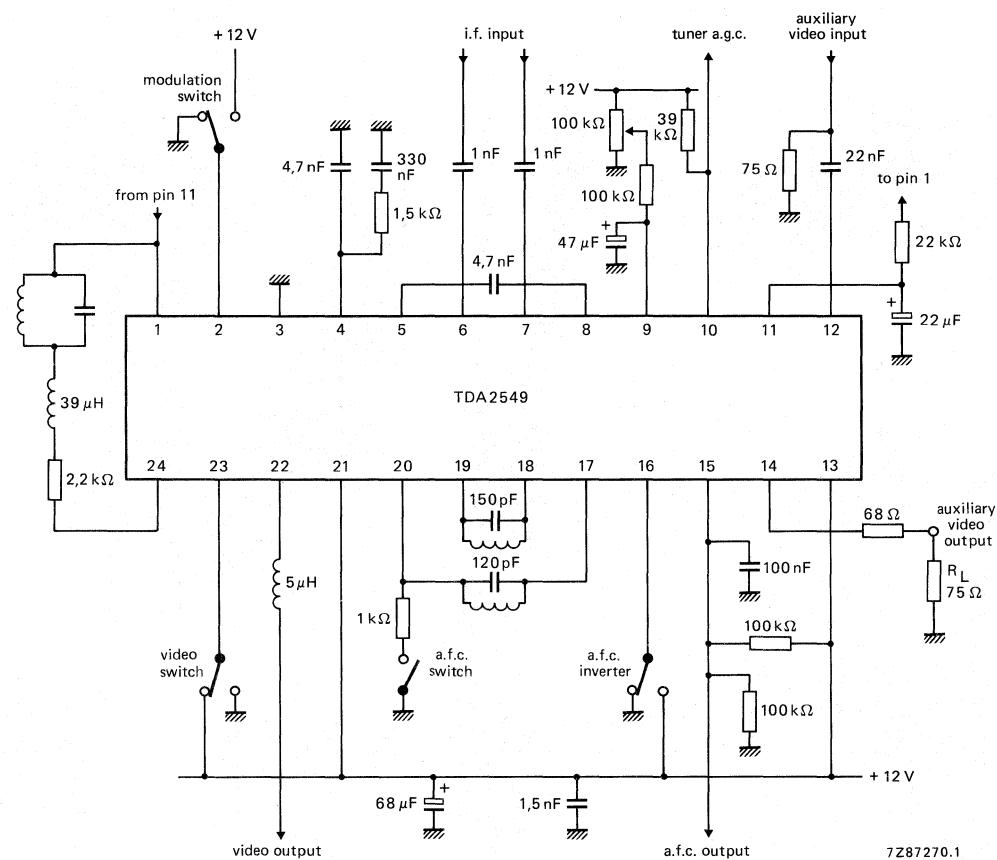

Fig. 5 Application diagram.
**CHARACTERISTICS** (measured in Fig. 5) $V_P = 12 \text{ V}; T_{amb} = 25 \text{ }^{\circ}\text{C}$
2. Measured in application of Fig. 5.